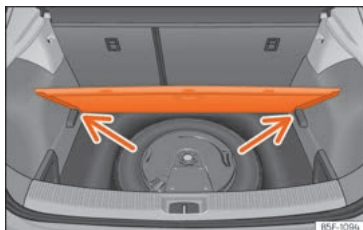

Fig. 192 Boot: variable floor
- Rest the floor on its housings »» **Fig. 192** [arrows].